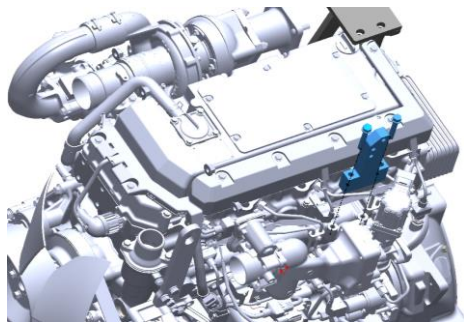

Figure 5
5. Install the engine lifting eye, flywheel side (8) on the ATD mount bracket (2) using M12X25 bolts (12) as shown in the figure 5.